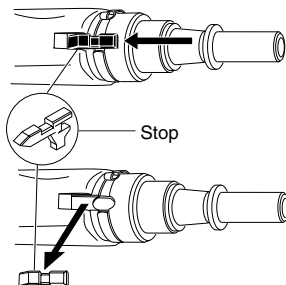

Figure 2 - Removing Stop
2. Push stop towards rear of tool and remove (see Figure 2).